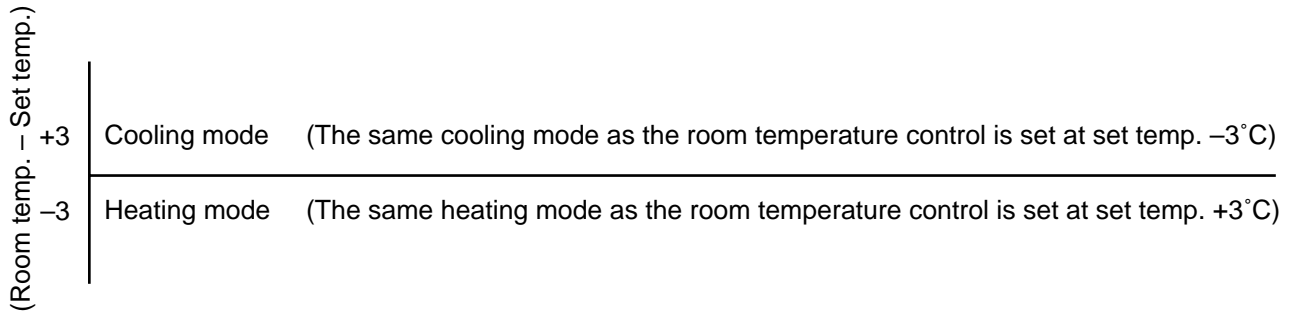

Fig. 7-4-1
- (1) One of the 3 modes, Cooling, Fan only and Heating is selected according to room temperature at which operation is to start, as shown in Fig. 7-4-1. The Fan mode will continue until room temperature reaches a level at which another mode is selected.
When the TEMPORARY button is pushed, the set temperature is fixed at 24°C and controlled in accordance with the chart shown in Fig. 7-4-1.